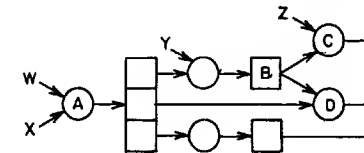

Figure 4. Inverter Networks
Acceptable conventions for showing inverter networks are illustrated in Figure 4. As a general rule, circle inverters alternate with square inverters wherever possible. Because multiple outputs are identical, only one arrow is shown in cases where an inverter (A) serves as the single input to several succeeding inverters. In more complex inverter networks, multiple arrows are used (B to C and D; in this case because B is not the only input to C or D).